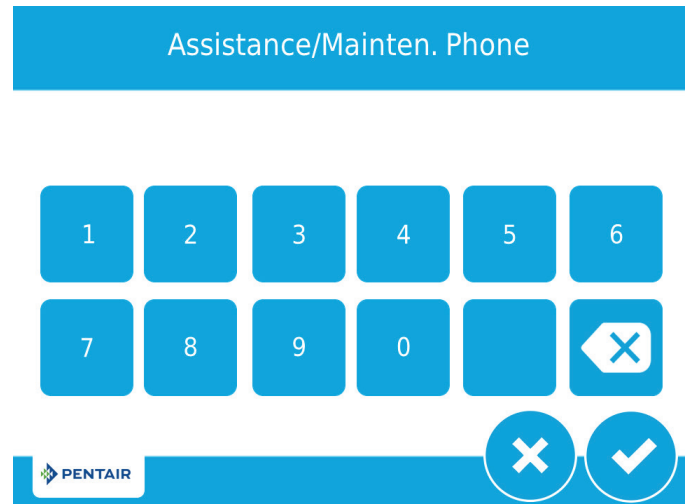

Figure 6 Assistance/Mainten. Phone Screen
3. After pressing , the Assistance/Mainten. Phone screen (Figure 6) is displayed.